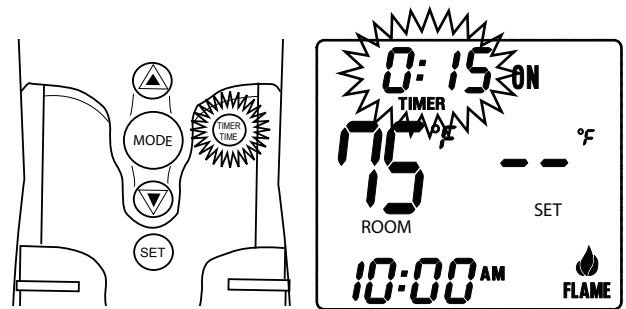

Fig. 19 Setting Timer
1. Press and release the TIMER/TIME button on the transmitter. The word TIMER will appear and 0:15 minutes will begin blinking on the screen (Fig. 19).
2. Press the UP or DOWN button on the transmitter to begin advancing through each of the countdown time options. Available countdown times are 15 minutes, 30 minutes, 45 minutes, 1 hour, 1 hour 30 minutes, 2 hours, 2 hours 30 minutes, and each additional half-hour up to nine (9) maximum hours.